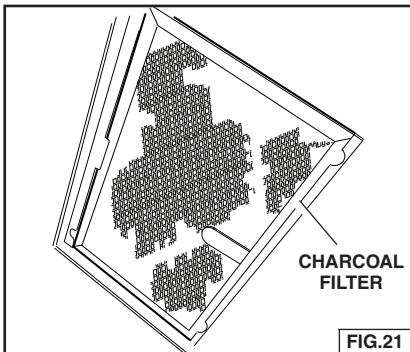

FIG.21
1. If the hood is non-ducted, insert the charcoal filter into the pocket behind the grease filter. If the hood is ducted, discard the charcoal filter. Fig. 21.